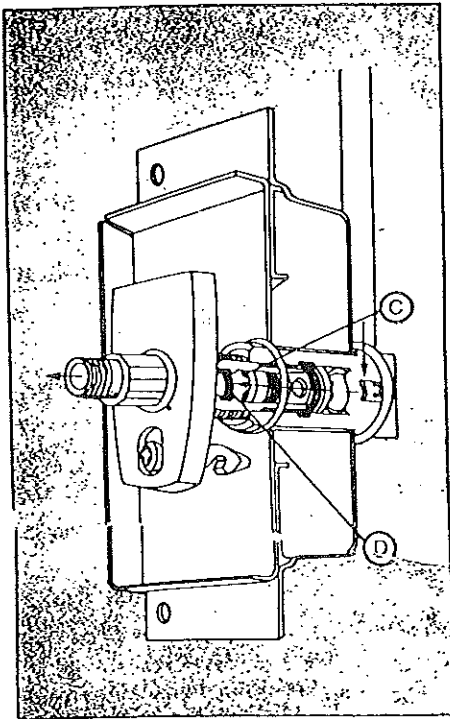

FIGURE 1
Inserting the adapter pushes the poppet inward, permitting gas to flow through the adapter. Leakage is prevented by the O-ring (C) encircling adapter (D) - Figure 1.